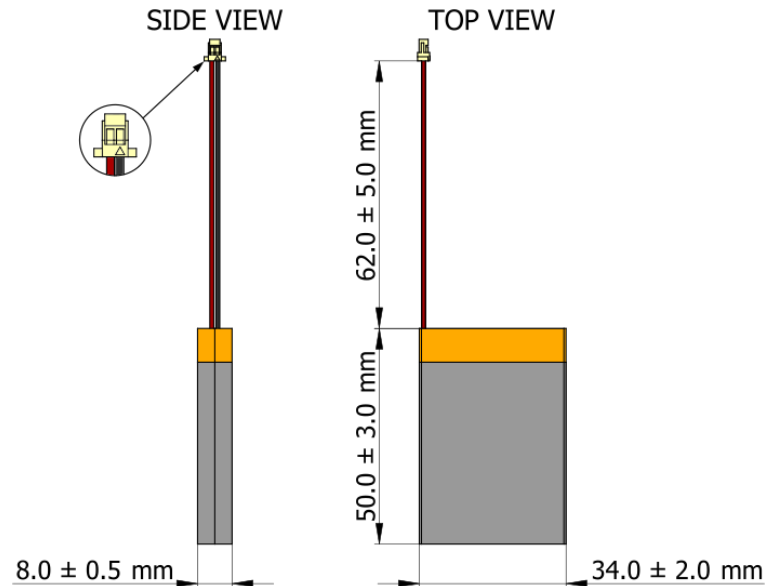

Figure 1: 1500mAh Battery Drawing & Dimensions
1.1 Outline Dimensions: See attached drawing, Figure 1, for dimensions.